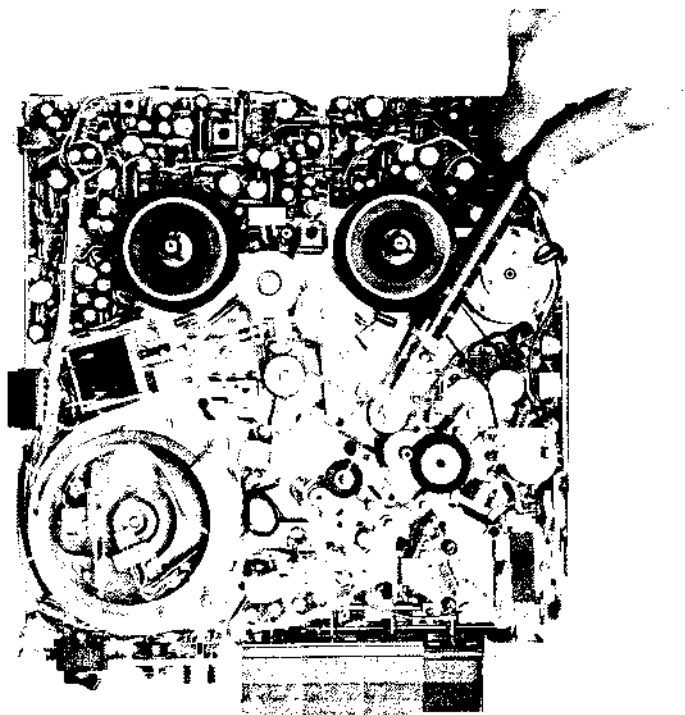

Fig. 1-4
(2) SUB PINCH ROLLER PRESSURE ADJUSTMENT
- b) As shown in Fig. 1-4, at playback mode, connect a 0 to 50g spring gauge to the sub pinch roller shaft and measure pressure at point at which pinch roller rotation stops.